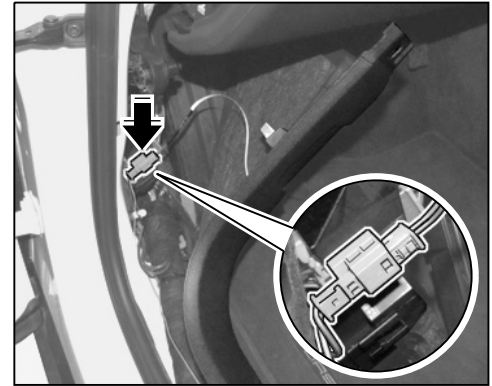

Figure 32
- 5.10.2 Connect plug connection ⇒ *Figure 32 -arrow-*.